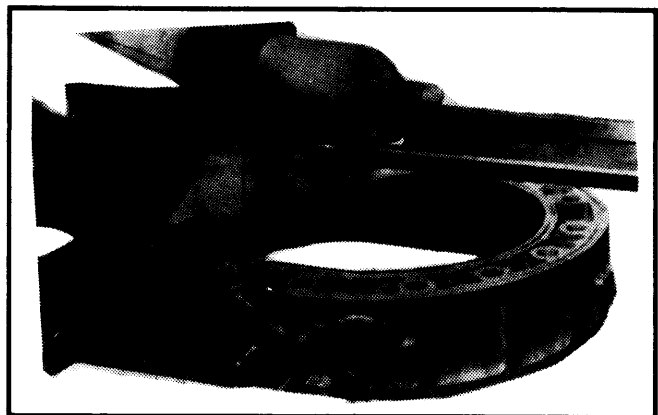

Fig. 9 Measuring Rotor Housing for Distortion
3) Place a straightedge across sealing surface of rotor housing and check for distortion, using a feeler gauge. If distortion exceeds  $.0016''$  (.04 mm), replace housing. See Fig. 9.